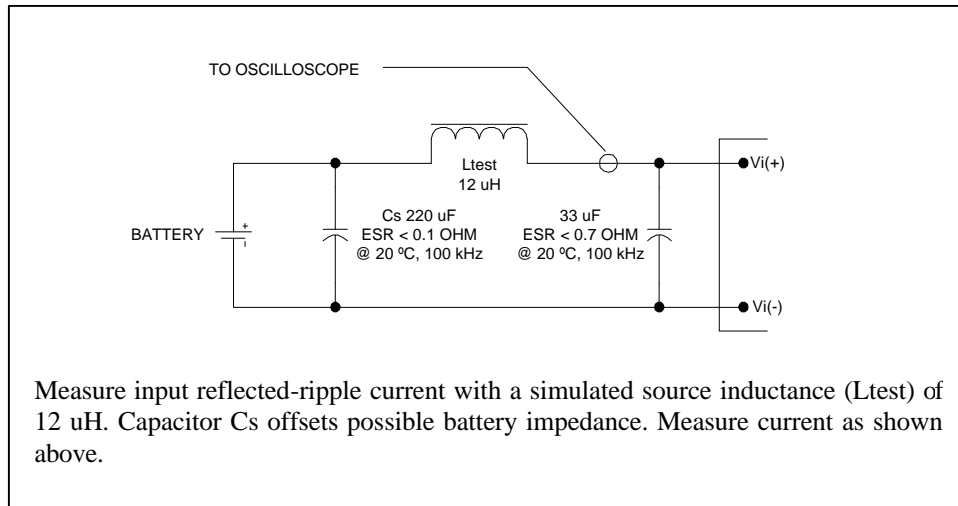

Figure 1. Input Reflected Ripple Current Measurement Setup.
3. External input capacitance required. See Input Ripple Current test measurement setup on Fig 1.